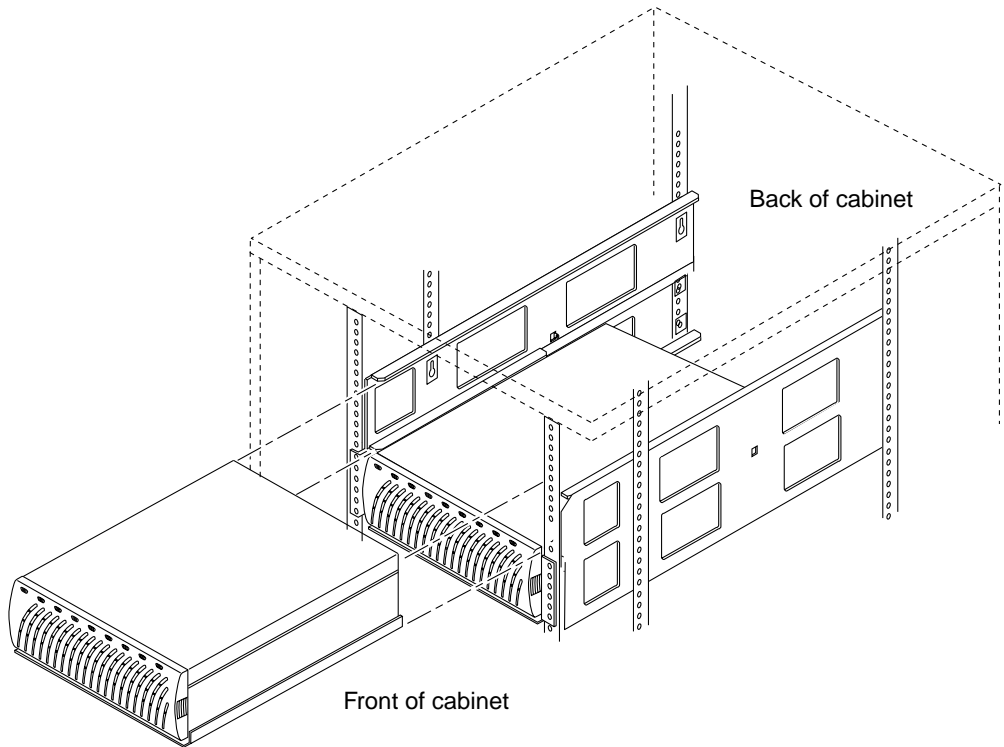

FIGURE 2-5 Installing a Second Disk Tray Into a 7-RU Side Rail
4. If you are installing a second disk tray into a 7-RU side rail, repeat Step 1 through Step 3 (FIGURE 2-5).